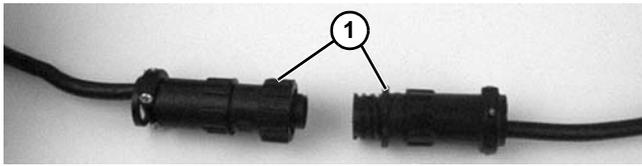

Figure 39
1. For DC variable speed motor, unplug motor cord at disconnect (**Figure 39, item 1**).